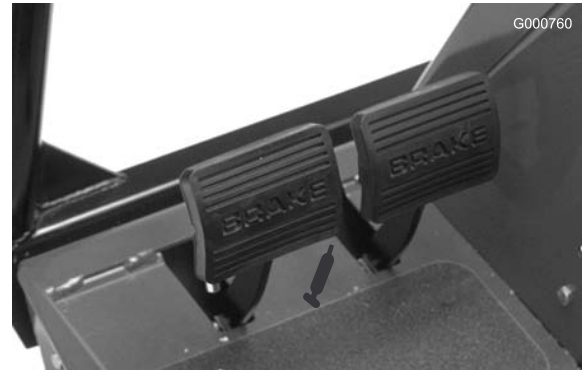

Figure 50
- Brake pedal shaft (1) (Figure 50)